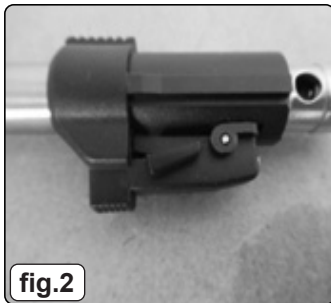

fig.2
- 4.1.1. Choose from one of the three nozzles provided and fit to main body, ensuring that the nozzle locks into the main body securely (fig.2).